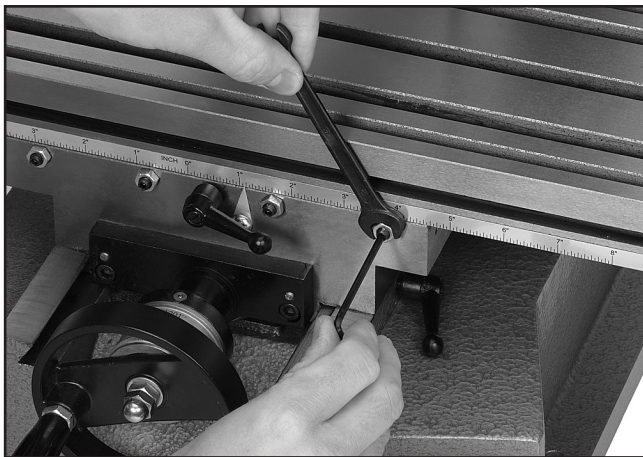

Figure 32. Gib adjustment.
2. Loosen the lock nuts (see **Figure 32**).